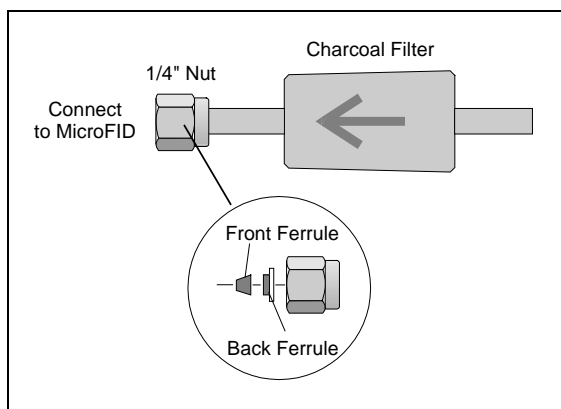

Figure 17 **Connecting Charcoal Filter**
1. Load the Teflon ferrules into the nut. The nut and ferrules are supplied with the filter. See *Figure 17*.